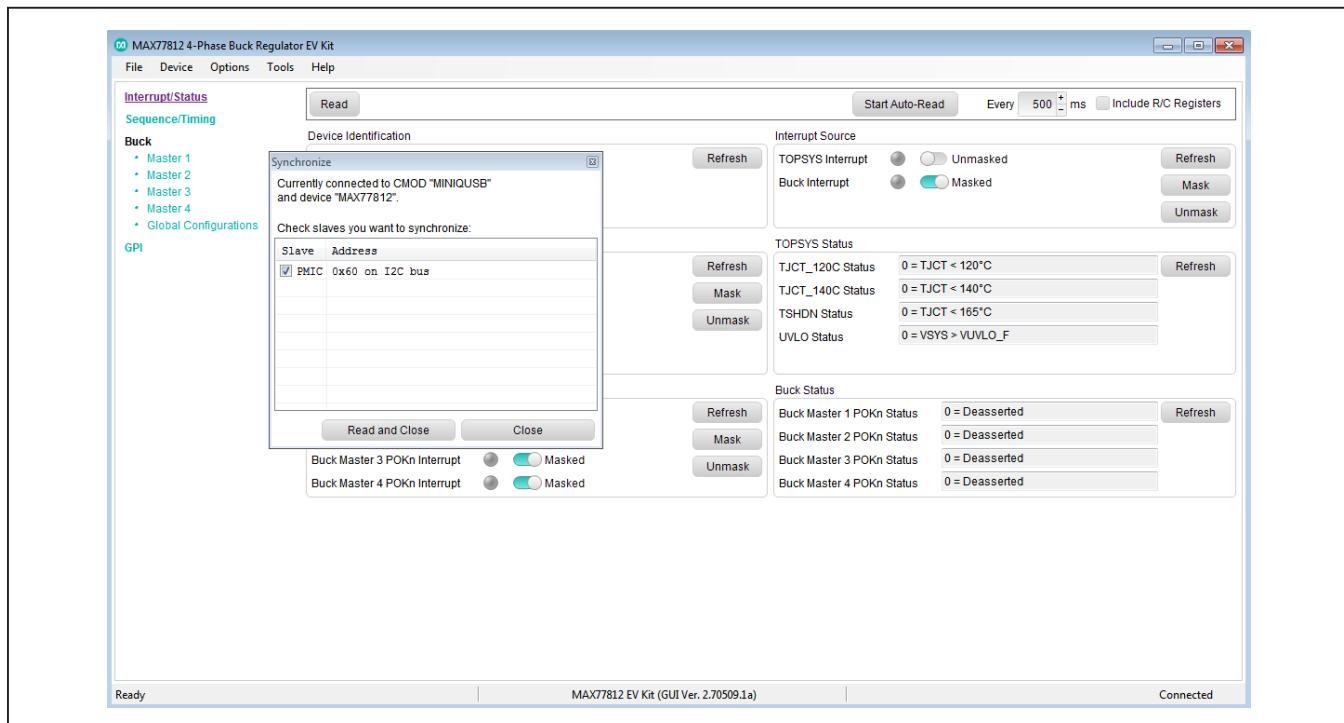

Figure 4. MAX77812 EV Kit GUI Connection
- 4) Enable the power supply output and confirm the input current is low (< 100 $\mu$ A). Open the MAX77812 GUI window and click on **Device** then **Connect**. If the connection is successful, it displays the message **Currently connected to MINIQUICK CMOD and DEVICE MAX77812**. Click **Read and close** (Figure 4).